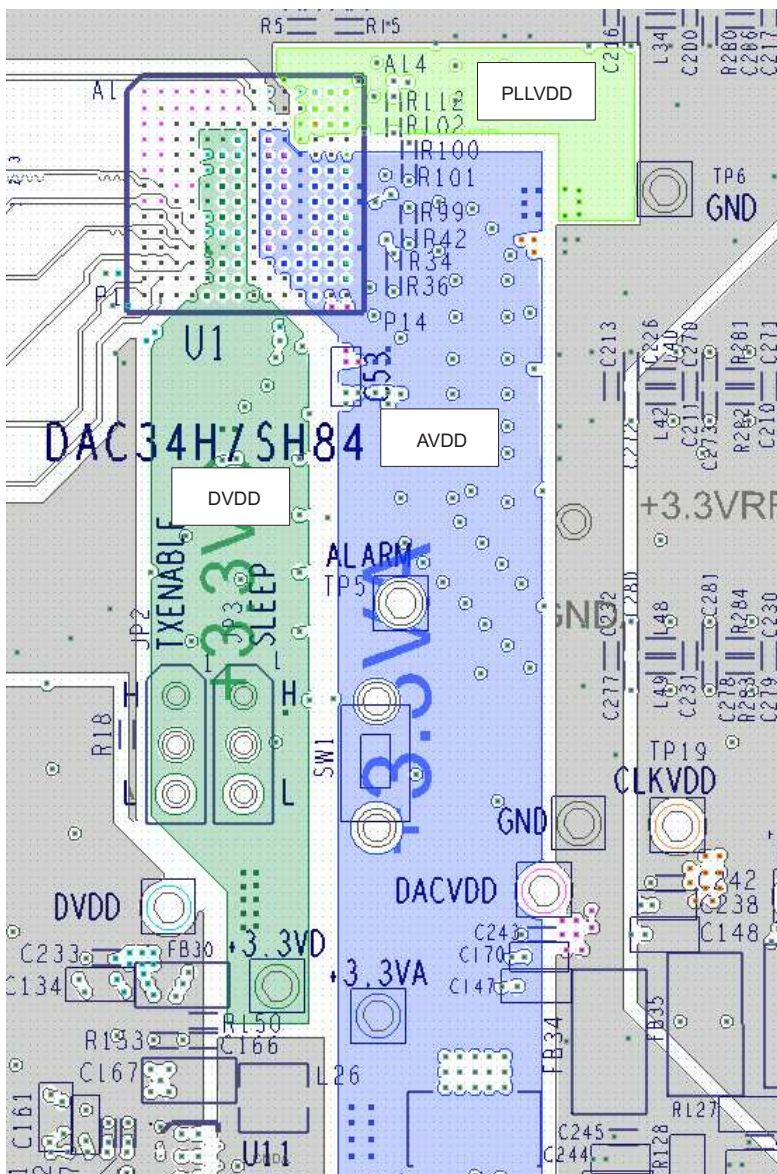

Figure 99. Sixth Layer of DAC34SH84 Layout Showing Power Layers. Layout Example from DAC34SH84EVM Rev H
The following layout guidelines correspond to the layouts shown in Figure 98 and Figure 99.
2. As shown in Figure 98 and Figure 99, both layers three and four are designated for power supply planes. The DAC analog powers are all in the same layer to avoid coupling with each other, and the planes are copied from layer three to layer four for double the copper coverage area.